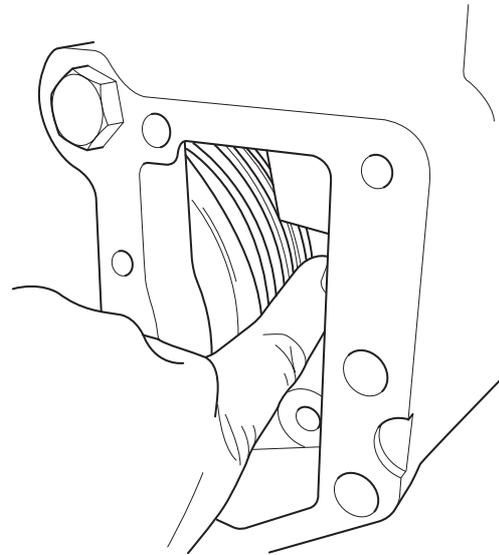

Fig 32.
- 7 Disengage the park brake (lever horizontal). Make sure that the brake is fully released. Remove the cover plate **31A** and feel the edge of the brake pack plates. When the brake is released free play between the plates should be easily detectable ⇒ Fig 32. (□ G-50). If the plates are not free **DO NOT OPERATE THE MACHINE.** Dismantle, inspect and renew park brake components as required, see **Park Brake, Powershift Machines.**